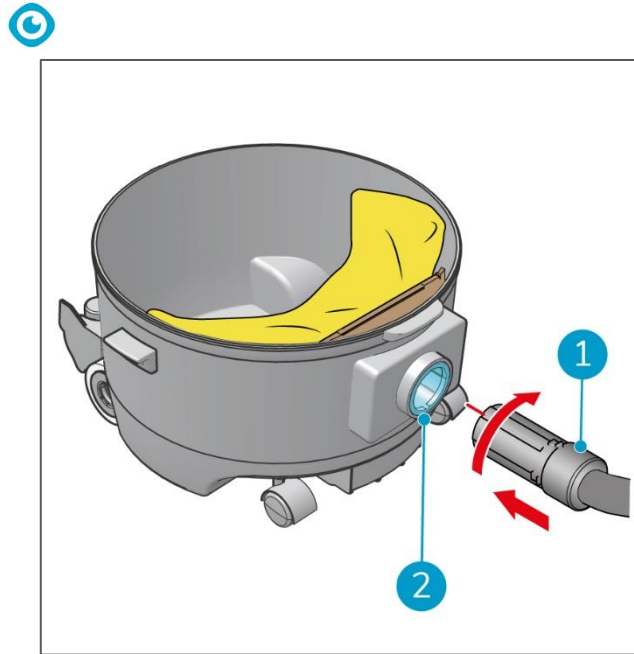

Figure 13
12. Place the hose (Figure 13, pos 1) into the hose connector (Figure 13, pos 2) turn it clockwise to lock it.